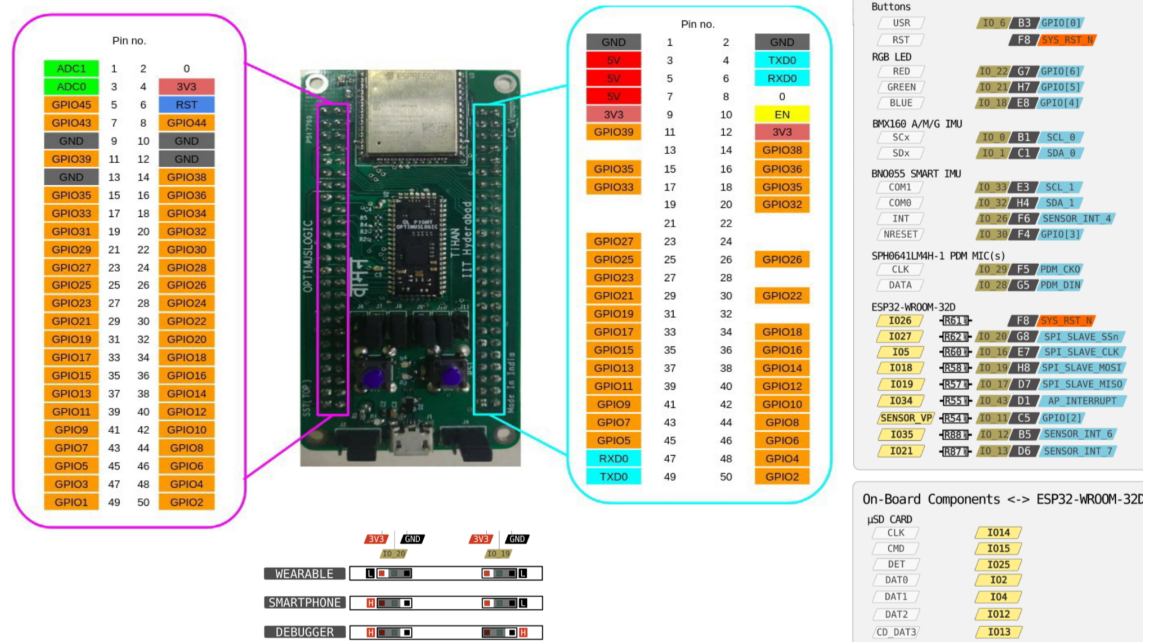

Figure 1.1.3.1: Vaman pins
- 1.1.3. The Vaman pin diagram is available in Fig. 1.1.3.1